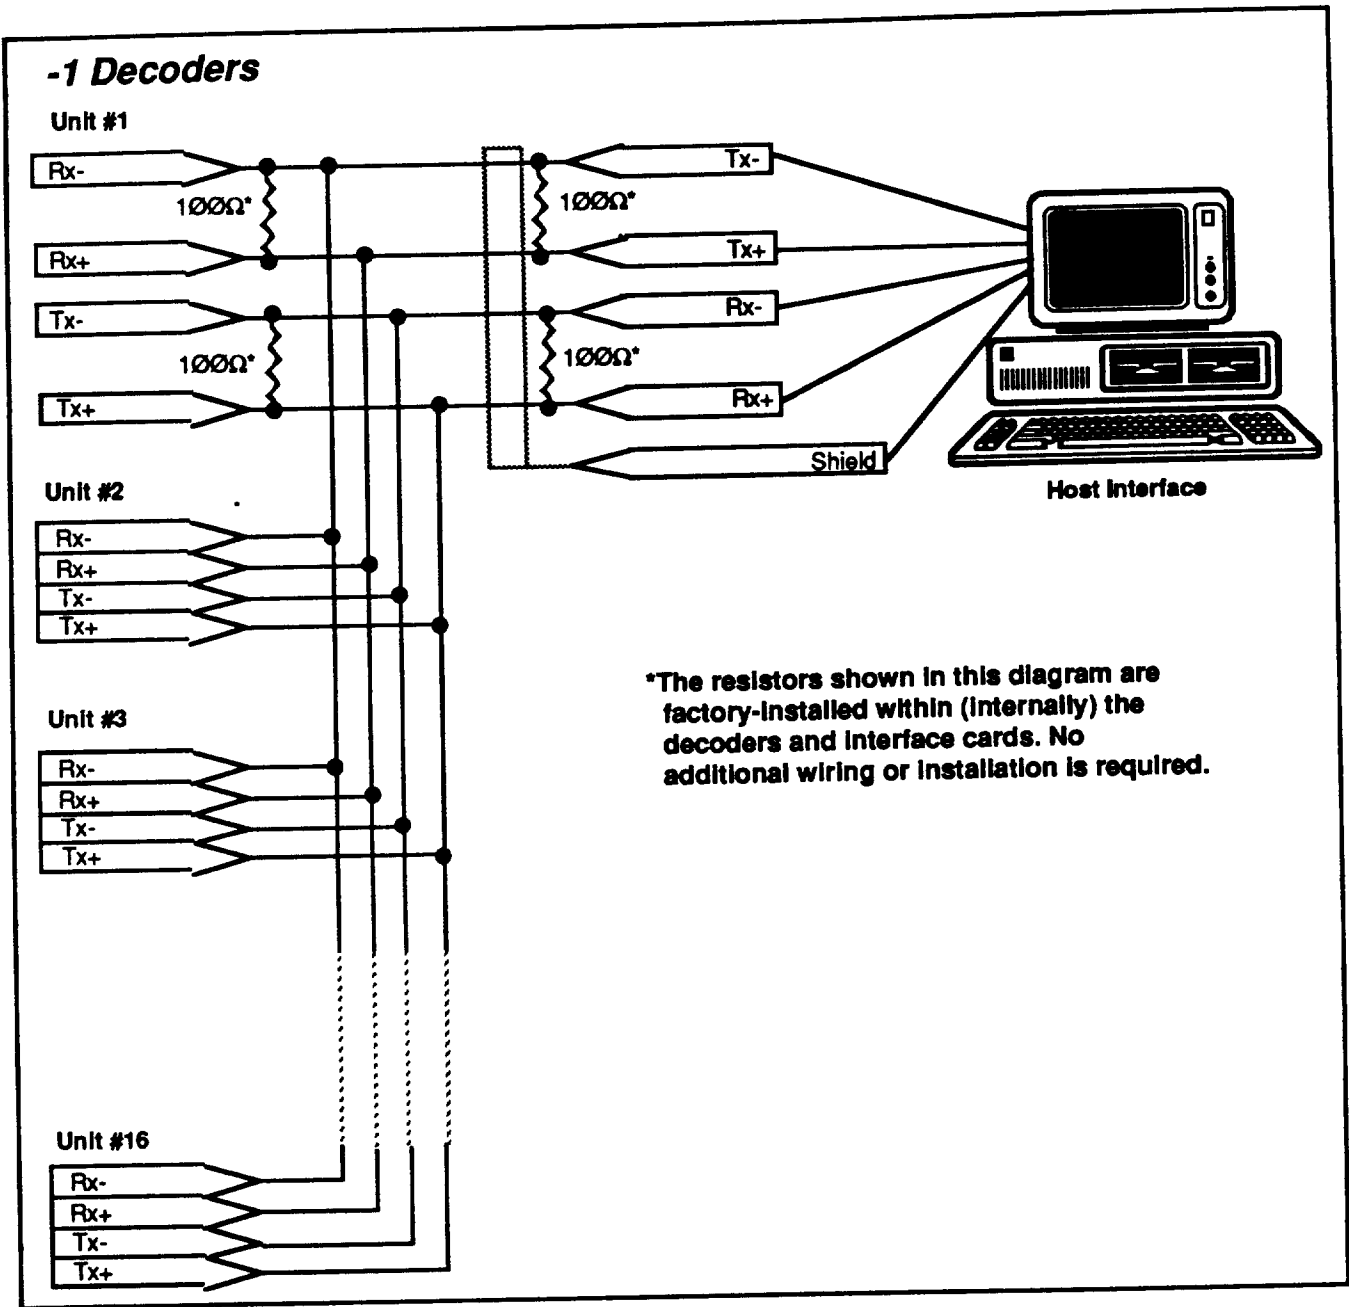

Figure 4-8. AR23 Multi-Drop Wiring
Refer to Figure 4-8 for an example of proper multi-drop wiring. The configuration for proper operation with the -1 and -4 decoder is different. *Check the configuration instructions in Chapter 2, Getting Started and complete the steps provided below before wiring the multi-drop configuration to ensure that your system is properly configured.*
Step 5 Refer to Figure 4-8 and wire the multi-drop configuration as shown.